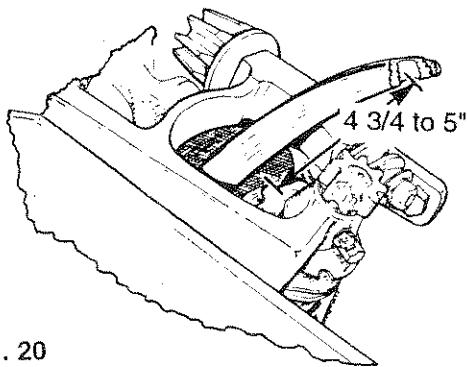

Fig. 20
4. Use the manual operator pendant to advance the needles to the uppermost position. The distance from the bottom of the needle eye to the twine disc should be 4 3/4 to 5", see **Fig. 20**.